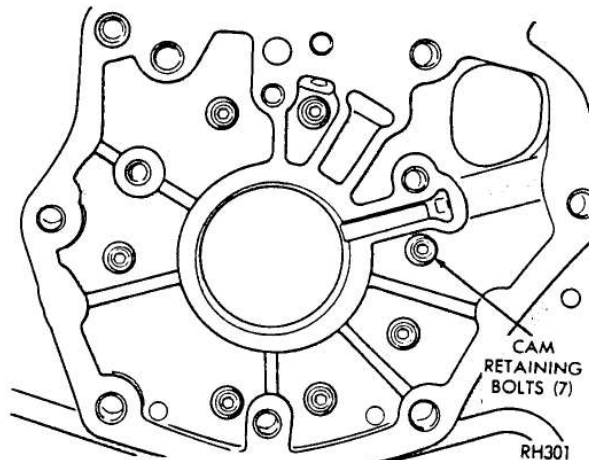
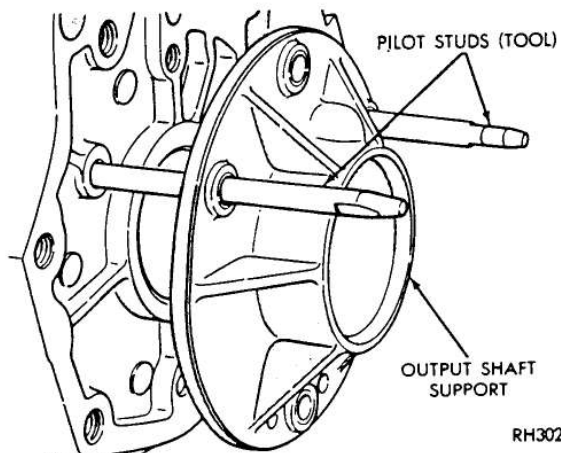

Fig. 37—Cam Retaining Bolts
Fig. 38—Installing Output Shaft Support
- (4) Carefully enlarge rivet holes in the case with a 17/64 inch drill. Remove all chips and foreign matter from the case, make sure cam area is free of chips and burrs.
- (5) To install, position cam and roller spring retainer in the case. Align cam bolt holes with holes in the case, then thread all seven retaining bolt and washer assemblies into cam a few turns. The cone washers must be installed so inner diameter is coned toward the bolt head (Fig. 37).
- (6) Tap cam firmly into the case if necessary. Draw retaining bolts down evenly, then tighten to 100 in. lbs. (11 N·m)
- (7) Screw 2 pilot studs, Tool C-3288-B into the case (Fig. 38). Position support over the pilot studs, and tap it firmly into the case with a soft-faced hammer.
- (8) Remove pilot studs, install bolts and tighten to 150 in. lbs. (17 N·m).